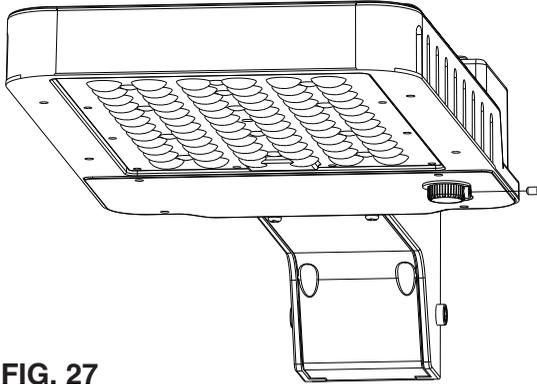

FIG. 27
1. Remove the set screw from the round c-Max™ USB-C receptacle with 1.5M Allen Wrench. (see FIG. 27).